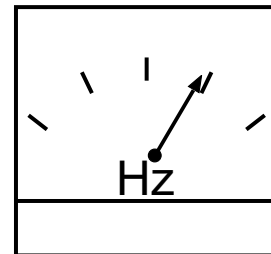

Figure 27. Frequency Meter
3. The generator's frequency meter (Figure 27) should be displaying the 60 cycle output frequency in **HERTZ**.